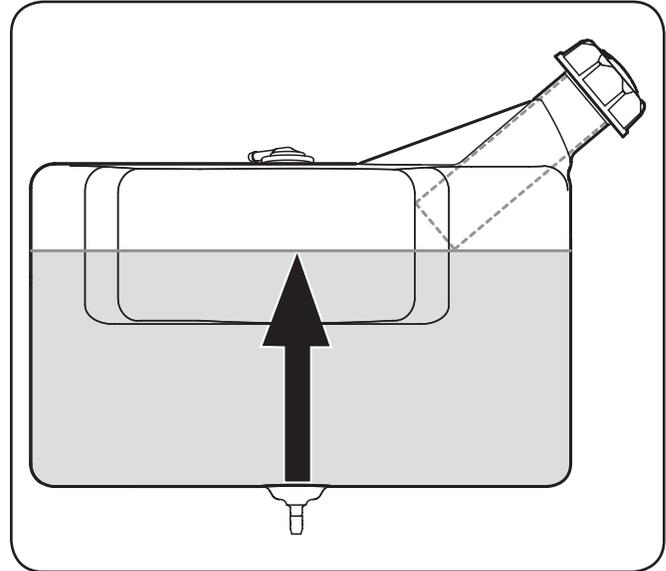

Figure 3-6
**IMPORTANT:** Be sure to STOP filling tank once fuel is seen inside the filler neck. This ensures that a proper expansion volume is created. Do NOT top off the tank. See Figure 3-6.